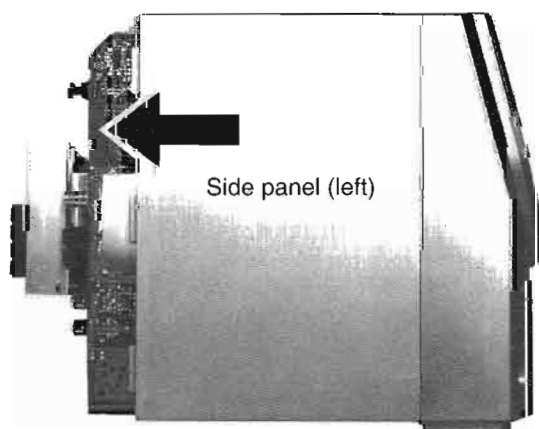

Fig. 3
2. Slide the respective side panels (right and left) rearwards to remove them as indicated by the arrows in Fig. 3 and 4.